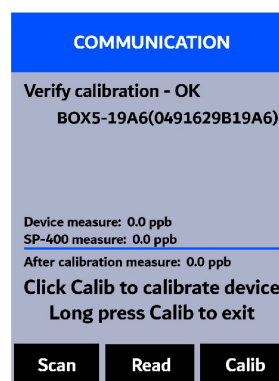

Figure 26.
14. If the calibration is successful, a "Verify calibration - OK" message will appear on the top of the display (Figure 26).